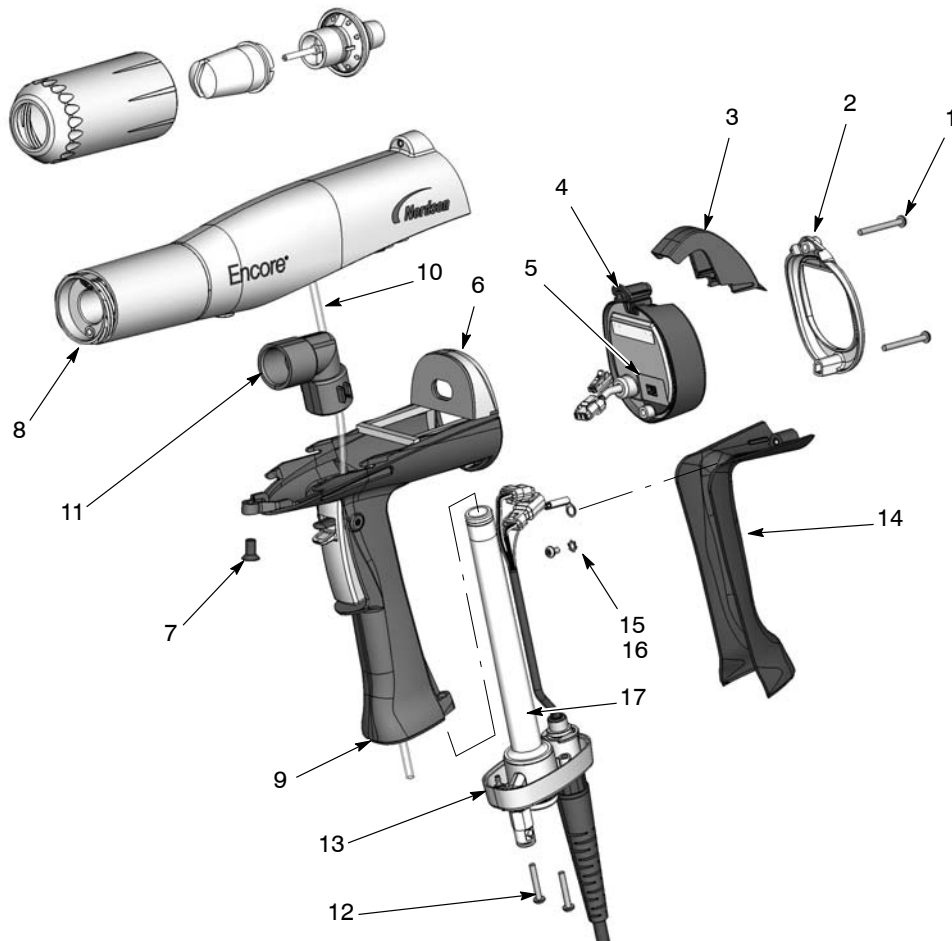

Figure 4 Gun Re-assembly with Upgrade Kit
2. See Figure 4. Connect the gun cable ground wire to the new ground pad with the screw and lockwasher (15, 16)
4. See Figure 4. Orient the handle base assembly (13) so the cable will be to the rear after assembly.
5. Insert the inlet tube (17) into the handle and push it through until the handle base (13) is close enough to the handle (9) that you can connect the clear air tubing (10) to the barbed fitting.
18. See Figure 4. Connect the cable connector to the display module.